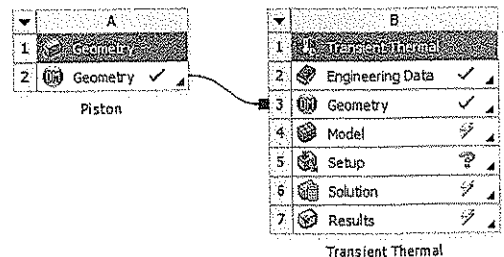

Figure 11-24 The Piston component system and the Transient Thermal analysis system
- 8. Drag the **Geometry** cell from the **Piston** component system into the **Geometry** cell of the **Transient Thermal** analysis system, refer to Figure 11-24. The geometry is now shared for the Transient Thermal analysis.